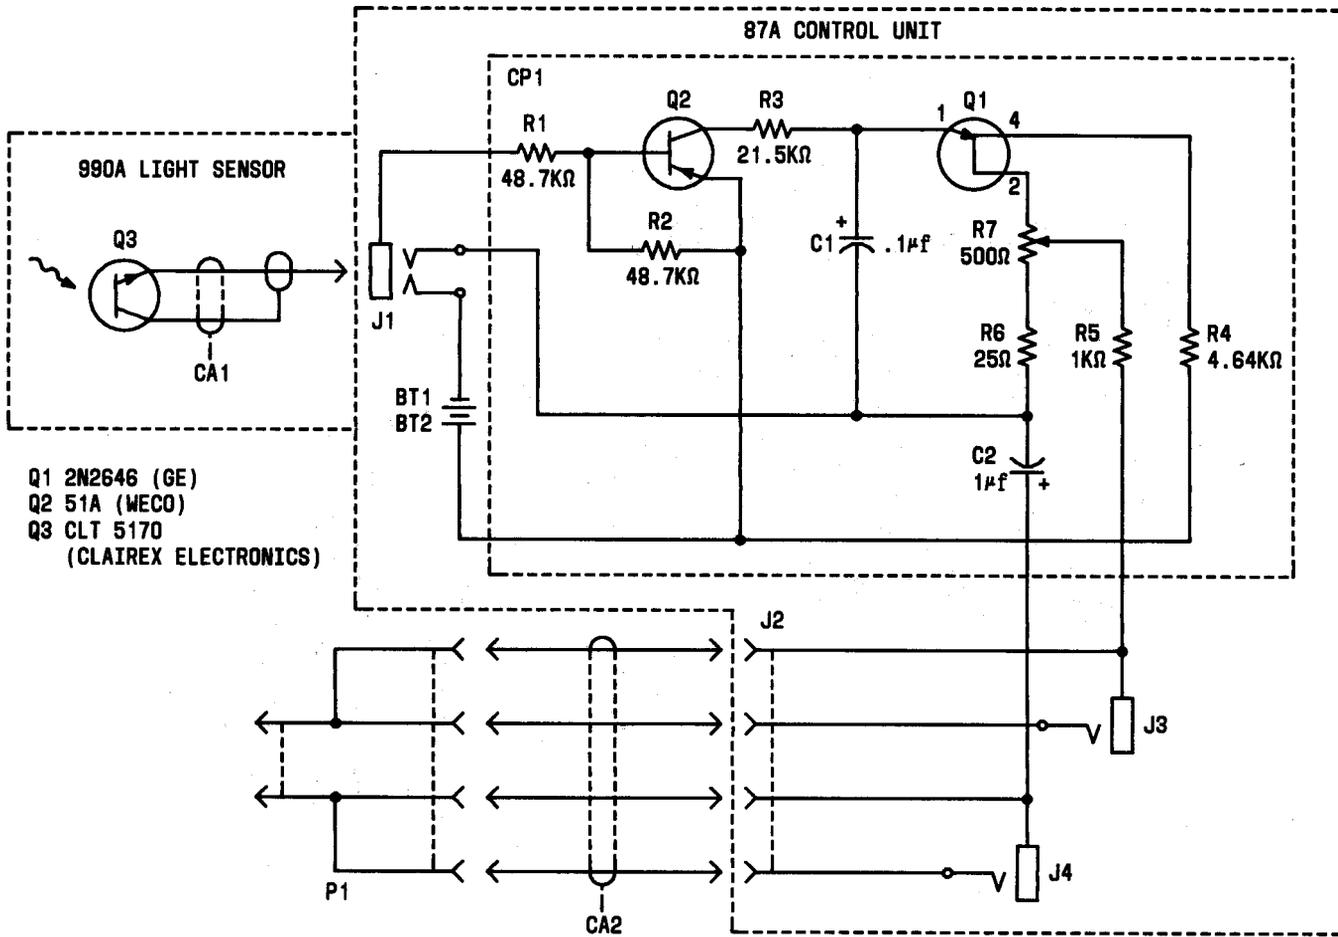

Fig. 3—Control Unit and Light Sensor—Schematic Diagram
**3.04** Remove the battery holder (held in place by a hook and loop tape fastener) by pulling it free from the battery bracket. Replace batteries. The negative terminal of the battery goes toward the spring in the battery holder. Press battery holder back onto battery bracket and check unit for operation. If a tone is heard, reassemble the control unit. If no tone is heard, check cables (Fig. 3).